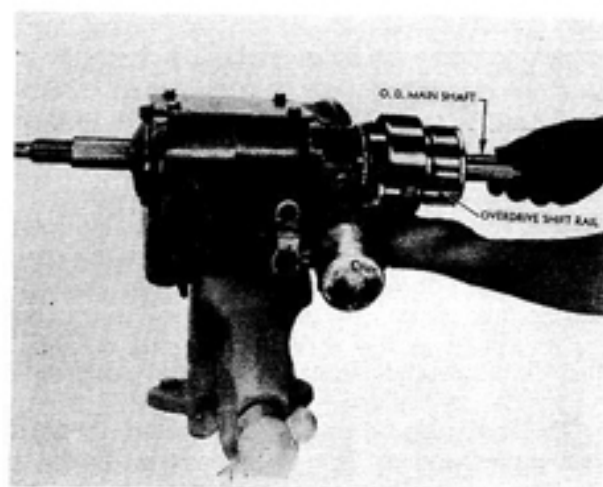

Figure 12.
h. Install one cap screw to hold the adapter plate to the main case. Then remove the overdrive main shaft, catching the clutch rollers in one hand (Fig. 12). Removing the large snap ring will then permit the removal of the ring gear from the output shaft.